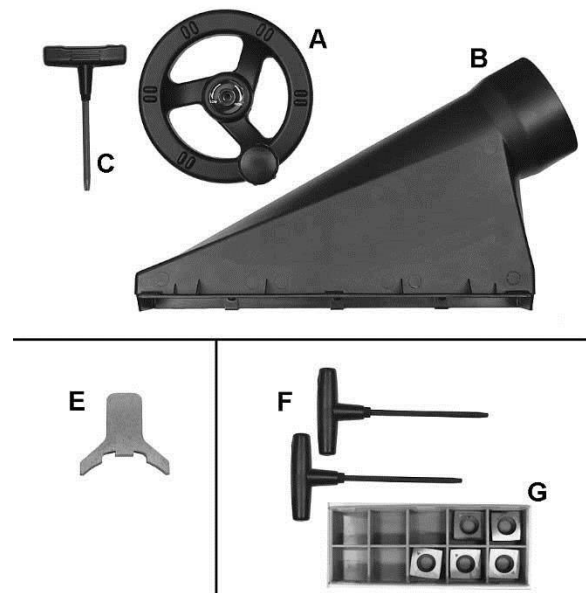
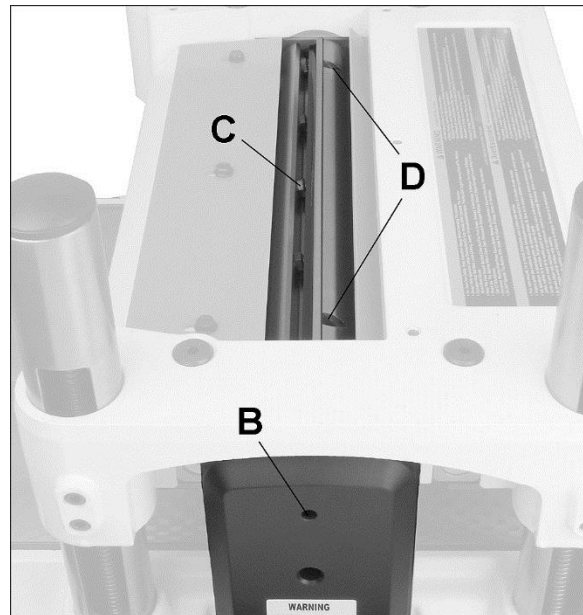
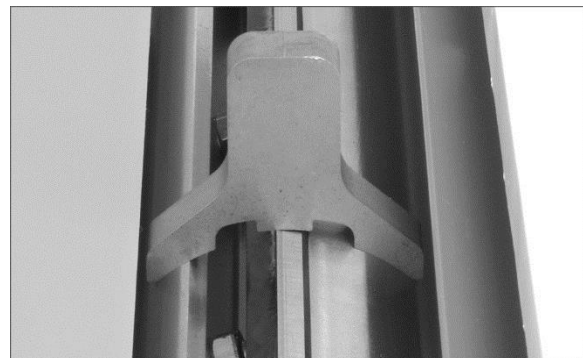

Figure 5-1: contents (not to scale)
Figure 7-2
Figure 7-3
See Figures 5-1 and 5-2.
3. Insert the provided Torx driver (C, Figure 5-1) into hole through belt guard (B, Figure 7-2). Use this to rotate the cutterhead during the procedure.
4. Loosen the five gib screws (C, Figure 7-2) with a 12mm wrench.
7. Place knife gauge onto cutterhead. The knife should just contact the gauge and the gauge sit flush on the cutterhead, as shown in Figure 7-3. If adjustment is needed, turn screws (D, Figure 7-2) in or out with a 3mm hex wrench, until the knife contacts the gauge. Verify this positioning at several points along the knife.
Use a provided star-point driver (F, Figure 5-1) to remove the knife insert screw.
3. Insert provided Torx driver into hole through belt guard (see B, Figure 7-2). Use this to rotate the cutterhead during the procedure.